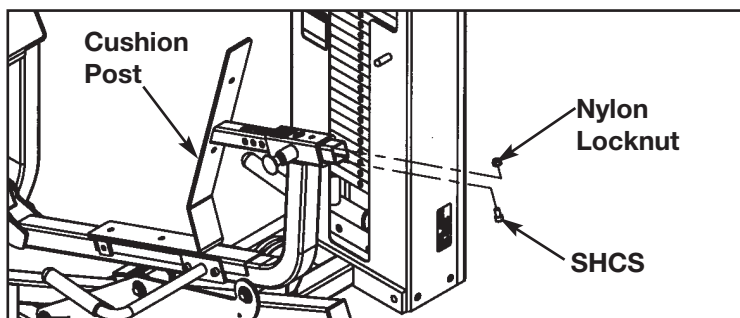

Figure 26
- C. Remove the SHCS and nylon locknut securing the cushion post. See Figure 26.